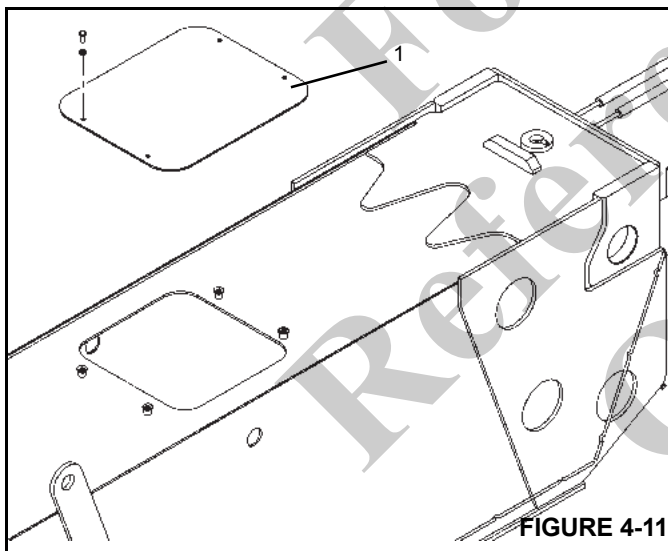
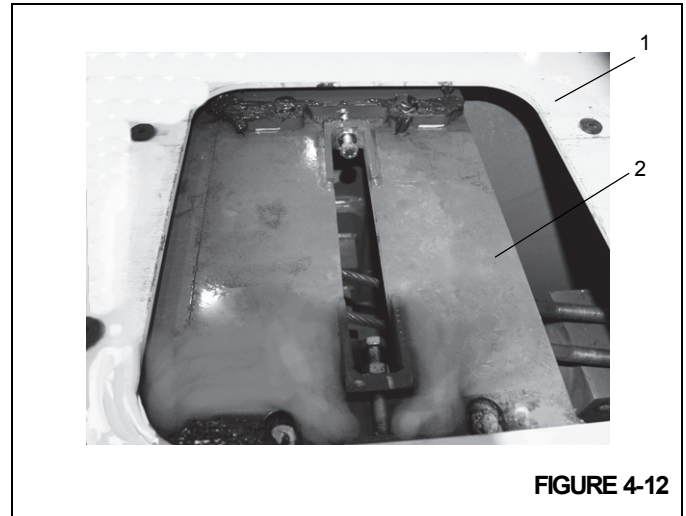

FIGURE 4-11
FIGURE 4-12
1. Remove the access cover (Figure 4-11, 1) on the top rear of the base section. Slide the assembly out of the base section (Figure 4-12, 1) enough to gain access to the top rear adjustable wear pads on the inner mid (Figure 4-12, 2).